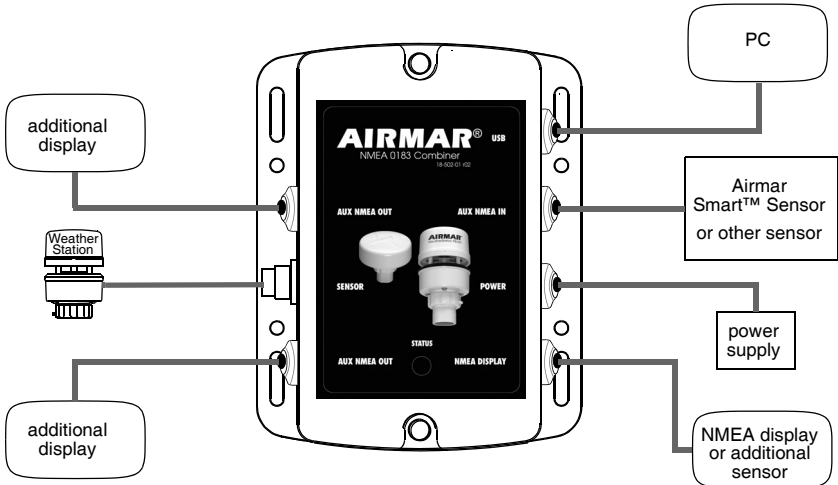
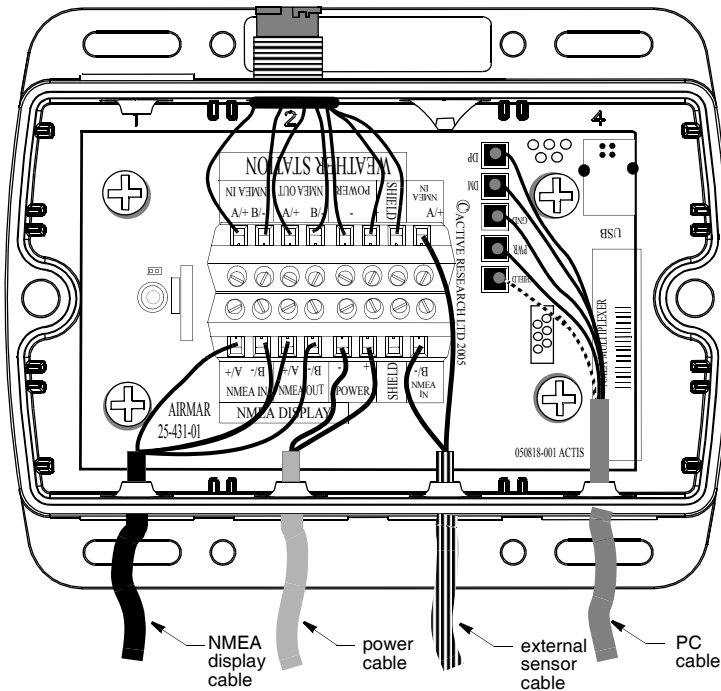

Figure 7. Combiner installation
Figure 11. Wiring an external sensor to a Combiner
The Combiner allows the WeatherStation data to be displayed simultaneously on both an NMEA display and a PC. On the Combiner, the two auxiliary grommets labeled AUX NMEA OUT can be used to connect additional devices capable of displaying WeatherStation data (see Figure 7). All display devices *must* be NMEA 0183.
- Using a small Phillips screwdriver, puncture the grommet that corresponds to NMEA Display on the cover (see Figure 7). *Be careful* not to damage the circuit board.
To wire a device through the AUX NMEA IN grommet, use the NMEA IN terminals on the printed circuit board (see Figure 11).
3. Remove the cover of the Combiner to expose the terminals inside (see Figure 11). Using a small Phillips screwdriver, puncture the grommet that corresponds to AUX NMEA IN on the cover (see Figure 7). *Be careful* not to damage the circuit board.
4. Push approximately 100mm (4") of the cable through the grommet (see Figure 11).
4. Using a small Phillips screwdriver, puncture the grommet(s) that corresponds to AUX NMEA OUT on the cover (see Figure 7). *Be careful* not to damage the circuit board.